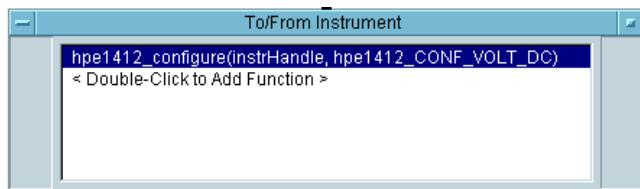

Figure 3-34. DC Voltage Function in VXIplug&play Object
8. Click OK. The To/From Instrument object now contains an entry for `hpe1412_configure(instrHandle, hpe1412_CONF_VOLT_DC)`, as shown in Figure 3-34.